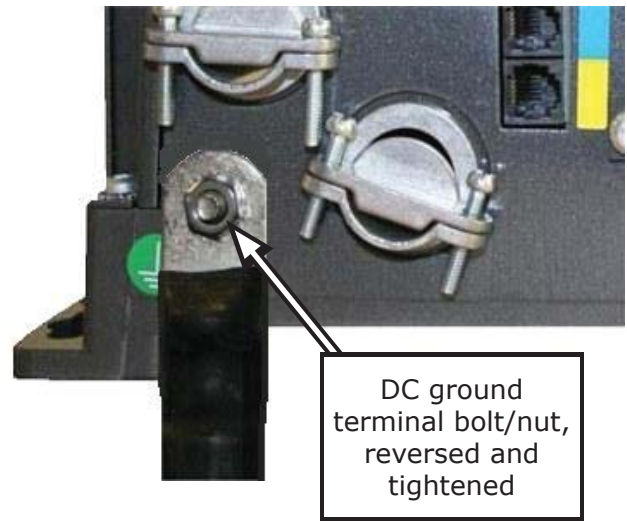

Figure 2-20, Large Ground Wire Connected to ME Series
DC Side - Since the currents on the DC side are higher than the AC side (10 times at 12 volts, 5 times at 24 volts), the equipment grounding needs are different. The DC equipment grounding conductor is sized per Table 2-5, and connected to the DC equipment grounding terminal on the inverter as shown in Figure 2-20.
4. Reverse the removed bolt, and place it back in the chassis hole to attach a correctly sized ground cable to the ME Series chassis, as shown in Figure 2-20.